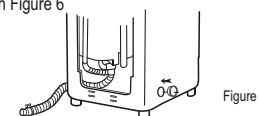

Figure 6
5. Install the drain outlet protecting cover to the other side, as indicated in Figure 6